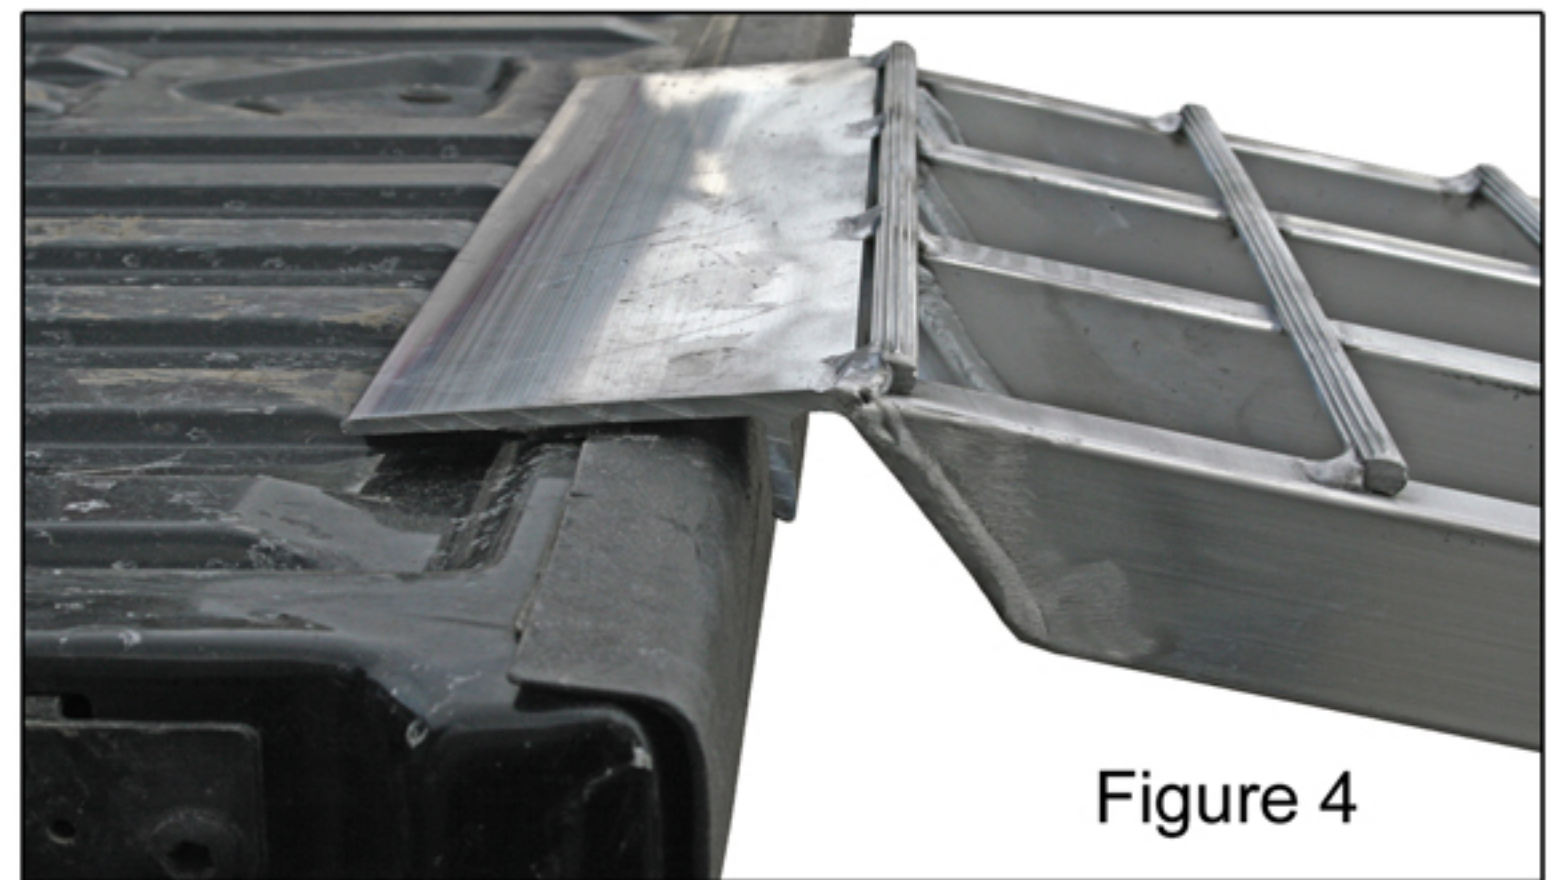

Figure 4
4. Unfold ramps and place the ramp snugly on the tailgate with the end plate lip overlapping the tailgate (Figure 4).